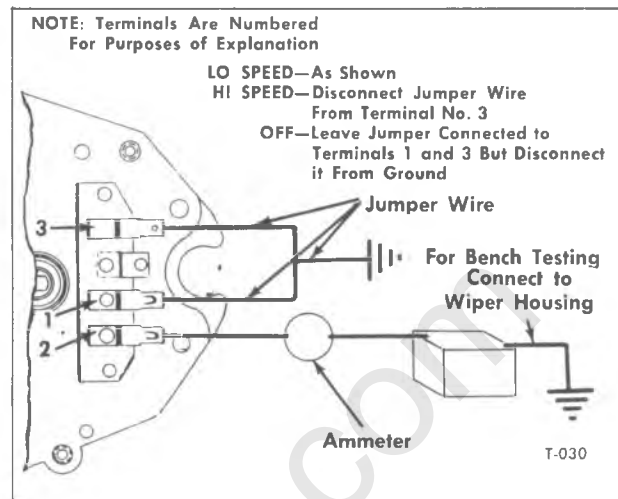

Figure 11—Troubleshooting Wiper Motor Circuit
2. Disconnect the wiring harness from wiper motor and try operating wiper independently of the dash switch as shown in figure 11. If wiper operates correctly independently of the dash switch (shuts off correctly with crank arm in "PARK" position) refer to possible causes below:
3. If wiper still fails to operate correctly, remove it from cab, then remove covering from over drive gears and check parking switch contacts which may be broken or stuck in closed position; check for a grounded lead at No. 1 or 3 terminals (fig. 11), or for a grounded shunt field.
5. If wiper still fails to operate, disconnect wiring from motor, and check for 12 volts at motor No. 2 terminal (fig. 11). No voltage indicates defective wiring.
6. With harness disconnected from motor, try operating motor as shown in figure 11. If wiper fails to operate, remove wiper transmission linkage and recheck wiper operation. If wiper operates, linkage is at fault. If wiper does not operate, remove unit from vehicle for disassembly.
3. Check operation by connecting assembled motor to battery as shown in figure 11.